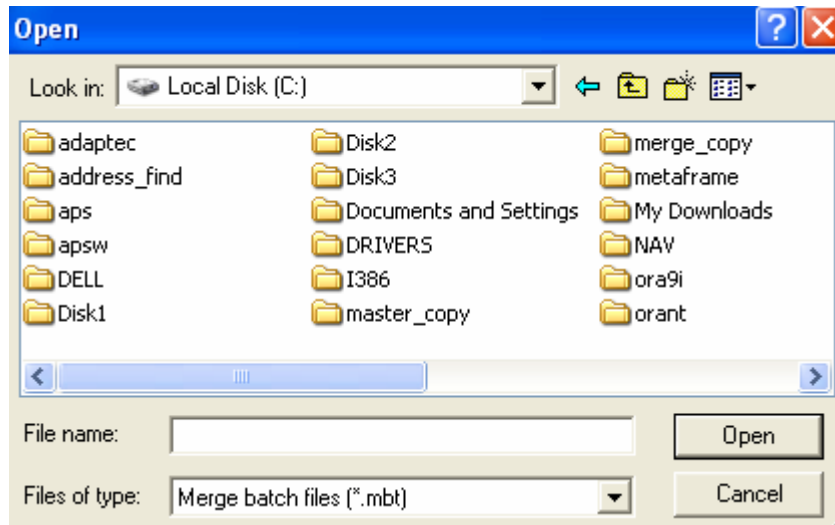

Figure 100: Batch Selection Display
13. Run batch of commands: A series of merge commands can be specified in a file and run without user intervention. Pressing the Batch button will display a window to select batches. The window is shown in Figure 100: Batch Selection Display.